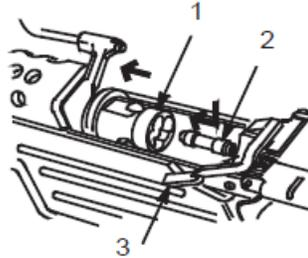
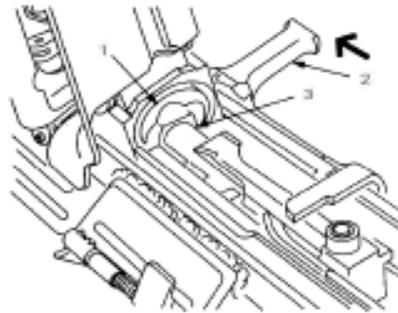
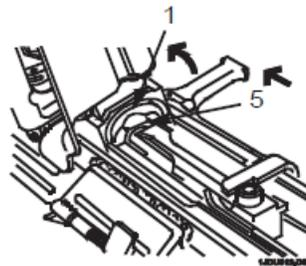

Figure 1. Inserting Headspace Gage.
Figure 2. Headspace Alignment Prep.
Figure 3. Headspace Verification.
1. With the weapon in the cocked position and the safety in SAFE position (red band not visible), depress the barrel locking lever (Figure 1, Item 3) lift and slide barrel assembly (Figure 1, Item 1) slightly forward.
2. Insert tapered end of headspace gage (Figure 1, Item 2) into chamber of barrel assembly (Figure 1, Item 1).
3. Carefully return barrel assembly (Figure 1, Item 1) to locked position without disturbing headspace gage (Figure 1, Item 2).
4. Holding cocking handle assembly (Figure 2, Item 2) to the rear, release the bolt and slide assembly (Figure 2, Item 3), and ease forward gently against headspace gage (Figure 1, Item 2).
5. Barrel assembly (Figure 3, Item 1) and bolt (Figure 3, Item 5) are considered to have proper headspace if bolt (Figure 3, Item 5) does not lock into barrel (Figure 3, Item 1) with headspace gage (Figure 1, Item 3) installed.
6. If bolt (Figure 3, Item 5) locks into barrel (Figure 3, Item 1), incorrect head spacing exists. Disassemble and replace defective parts and repeat headspace gage.